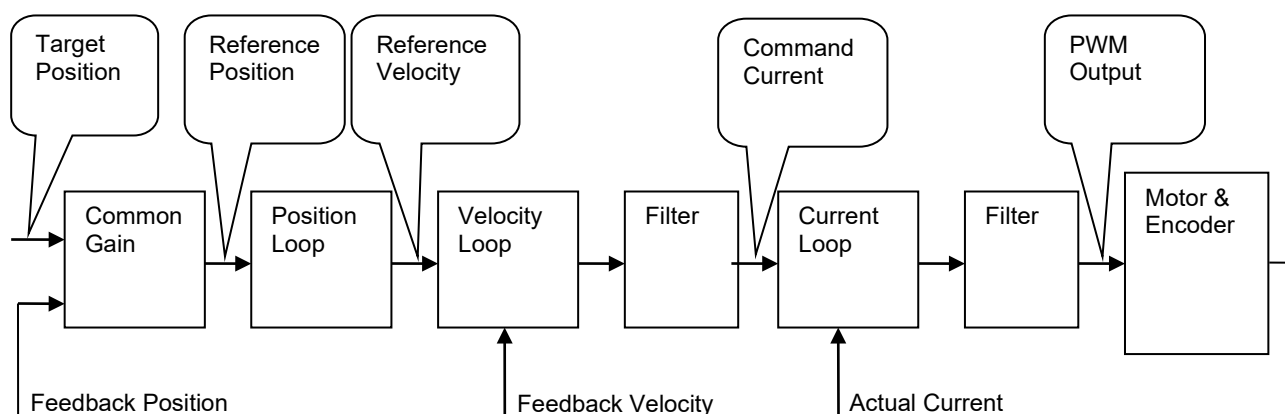

Figure3.5.1
(1) Servo loops
D1 servo drive has three servo loops, including current loop, velocity loop and position loop, to control servo motor. The servo loops are shown in figure 3.5.1. In position mode, all loops are handled by the servo drive. In velocity mode, velocity loop and current loop are handled by the servo drive. In torque/force mode, only current loop is handled by the servo drive. Current loop receives voltage command from controller and controls motor commutation. For easy operation, the servo loops of D1 servo drive can be set and adjusted by one common gain (CG).